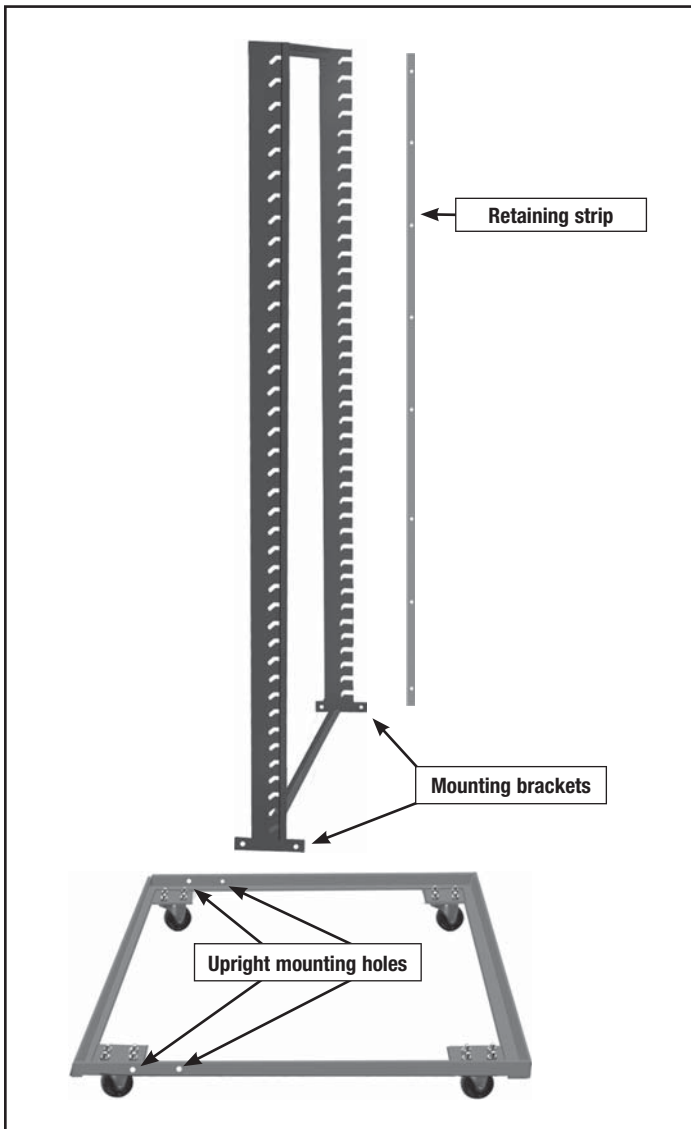
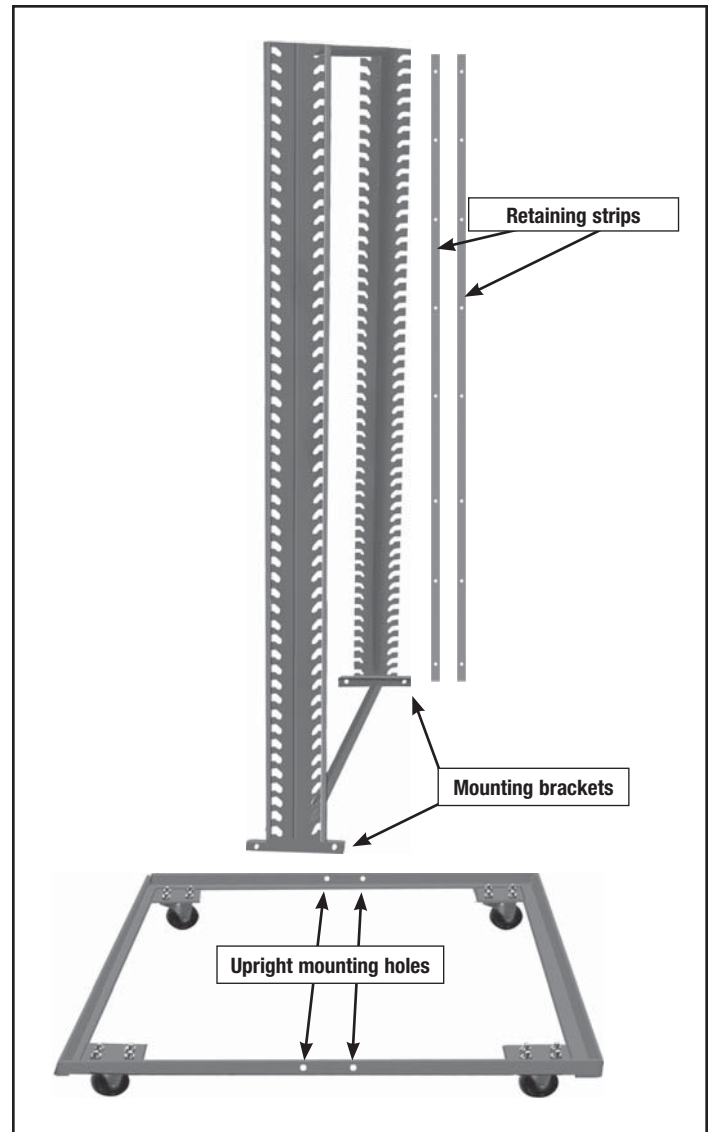

Figure 3. Attach upright to base; side of upright with welded lock strip is in foreground (Models MR1824)
Figure 4. Attach upright to base; side of upright with welded lock strips is in foreground (Model MR1824D)
Parts: 4 machine screws (1/4-20x3/4), 4 lock washers (1/4) and 4 nuts (1/4-20). Turn the base back right side up (with the casters on the bottom). Align the holes in the mounting brackets of the frame with the upright mounting holes on the base (Figures 3 & 4) and attach using four machine screws, four lock washers and four nuts. Screw heads should be to the outside and the lock washers and nuts to the inside. The upright mounts at the rear of the frame for models MR1824 and MR1824D (Figure 3) and at the center of the frame for models MR1824 and MR1824D (Figure 4).
3. After all shelves are in place, attach the retaining strip (Figures 3 & 4, page 4) to the open side of the upright with the self-tapping screws. This will prevent the shelves from falling out.